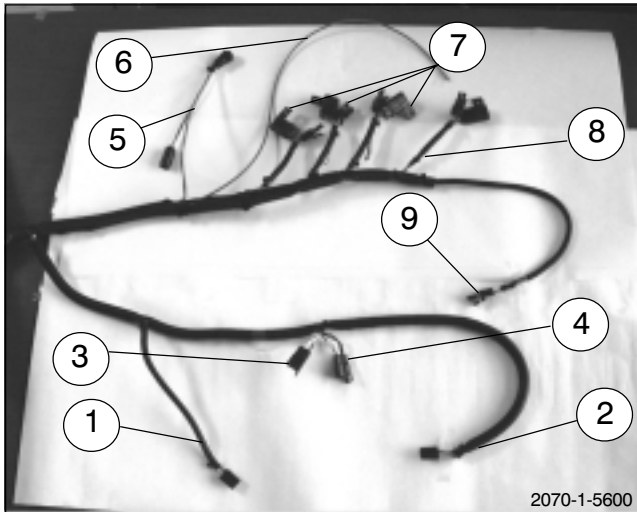

FIG. 18
36. The Boom Valve Plugs, Agitation Plug and PWM Valve Plug will exit the Harness in correct order from right to left for the appropriate Valve. They can be routed between the back of the Boom Valves, between the Valves and the Valve Mounting Bracket. In order, the far left Plug is for the PWM Valve located on the left side of the unit directly above the Spray Pump. The next Plug is for the Agitation Valve, the one (1) Valve to the left of the Boom Valves. Then the remaining three (3) Plugs are for the left, center and right Boom Valves. Assemble all Plugs and secure wires to Valves or Mounting Brackets using ties. Be sure no wires are rubbing edges of Brackets. (See FIG 18)